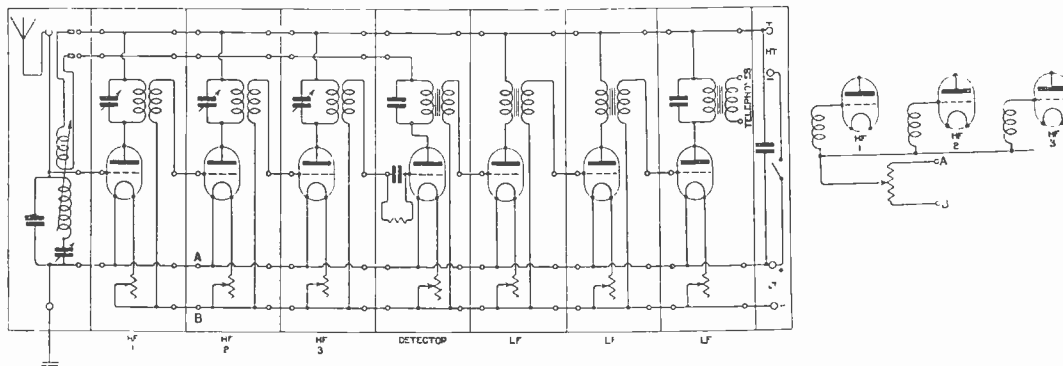

Fig. 5.
“W.H.S.” (West Dulwich).—(1) A wiring diagram using 3 H.F., 1 detector and 3 L.F. valves is given in Fig. 5. We do not recommend joining the last two valves in parallel for the loud speaker, as it is often difficult to get two valves in parallel working properly. However, if you would like to try connecting them in parallel, make up a valve unit and join its plate to the plate of the last valve, and the same with the grids and filaments. (2) As space is not a consideration you may use a variable condenser in place of the fixed condenser as you suggest, although this will give you another adjustment to make each time you tune in. The arrangement using the fixed condenser works very well. Perhaps we may suggest you use a series or parallel with the A.T.C., omitting the fixed condenser. (3) The lower diagram shows how the potentiometer is arranged to control the potentials of the grids of the H.F. valves. The grid leads are connected together and taken to the sliding contact of the potentiometer. The terminals of the potentiometer bridge the L.F. battery. Potentiometer control of the H.F. valves gives a very useful method of controlling the grid potential, and finer adjustment thereby is possible.